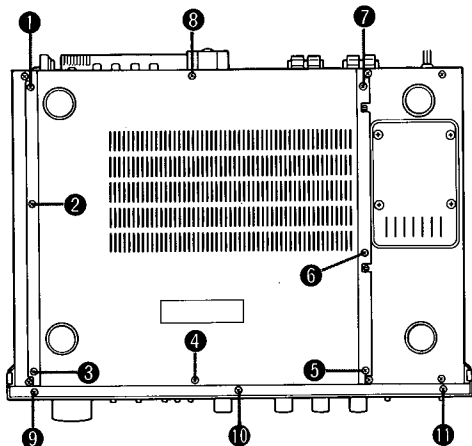
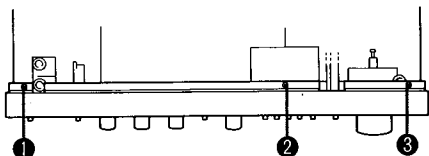

Fig. 2
Fig. 3
Remove the screws ① to ⑧ in Fig. 2 and then remove the cabinet bottom.
3. Remove the screws ⑨ to ⑪ in Fig. 2 and ① to ③ in Fig. 3 and then remove the front panel assembly.